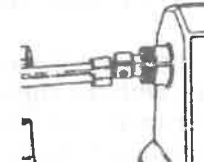
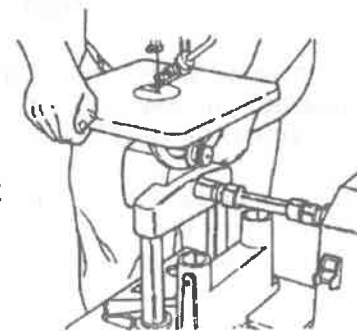
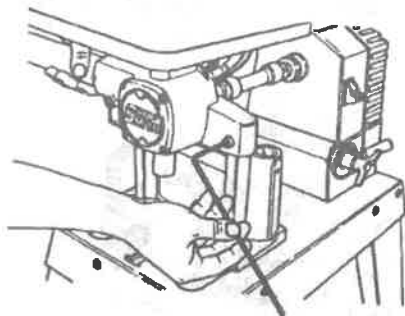
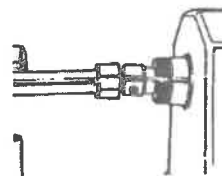

Fig.G-9
Fig.G-10
Fig.G-12
Fig.G-11
11. Fig.G-9 shows typical vertical misalignment. After you have horizontally aligned the Jigsaw to the drive shaft hub (31), lift the Jigsaw (as in Fig.G-10) until the coupler vertically aligns with the drive shaft hub, shown in Fig.G-11. When they are vertically aligned, tighten the Jigsaw tube setscrews. See Fig.G-12. Recheck the vertical alignment. If it is off, re-do it.